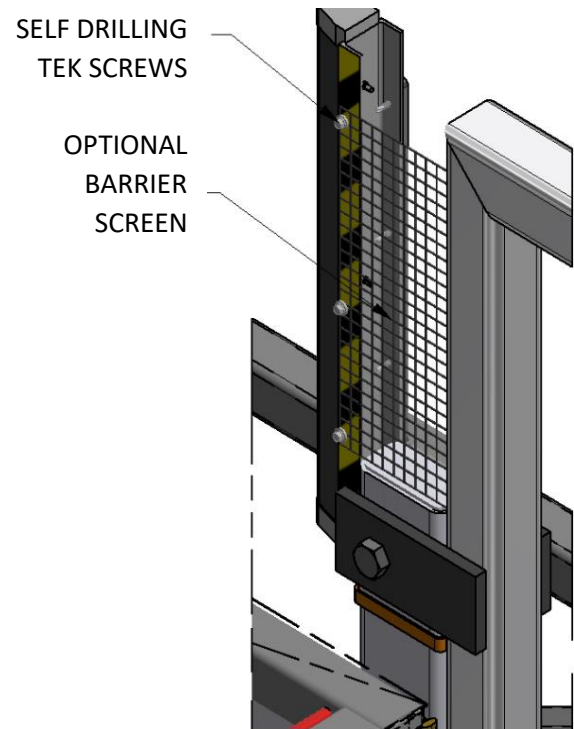

FIGURE 8
- Attach barrier screen in between **Arm Open Edge** and gate. Secure barrier screen to **Arm Open Edge** c-channel using supplied self-drilling tek screws as shown IN **FIGURE 8**.